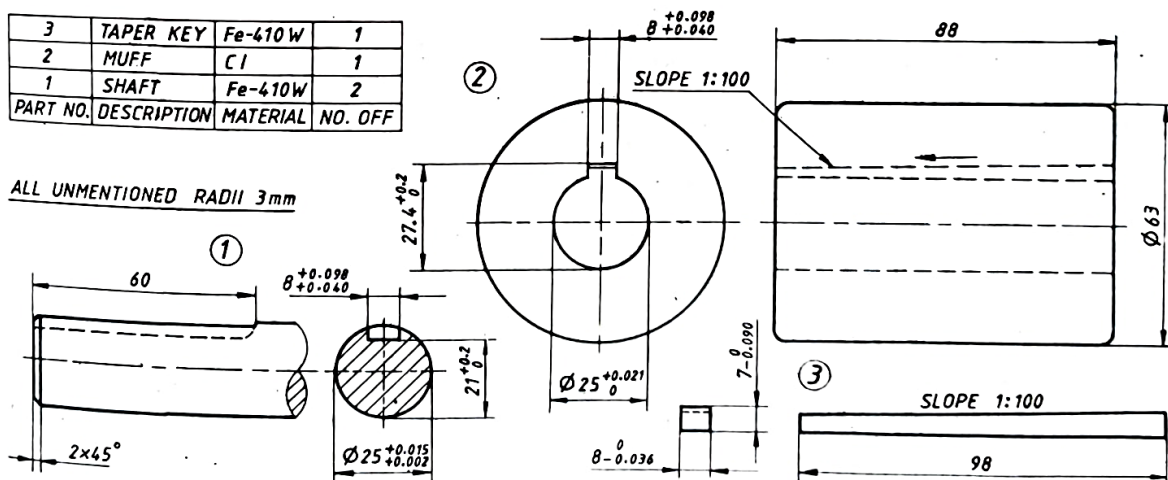

Figure 10.4: Details of Butt Muff Coupling
10.4 Create a 3D assembly model of Butt Muff Coupling, part drawings are shown in Figure 10.4. Generate front view, top view, left side view and isometric shaded model view of assembly.